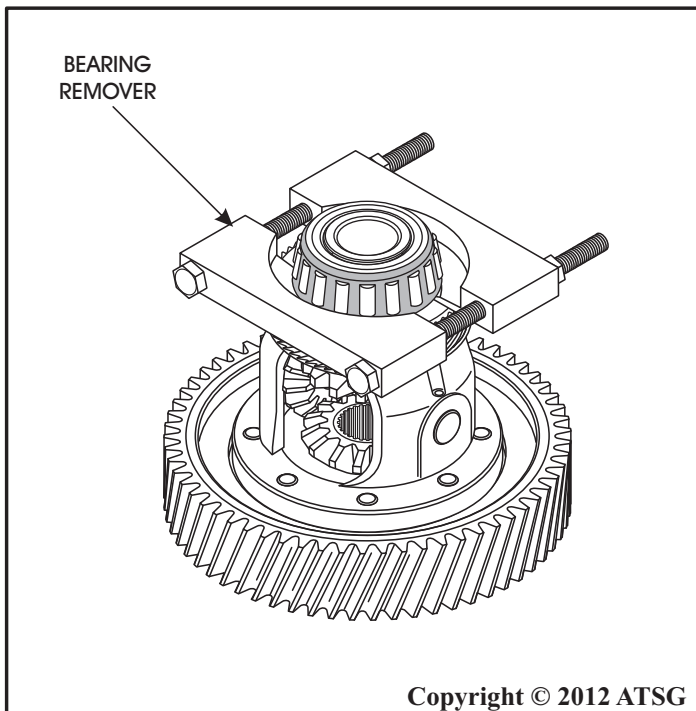

Figure 160
4. Remove the bearings using the split puller and the appropriate size general service gear puller as shown in Figure 160.